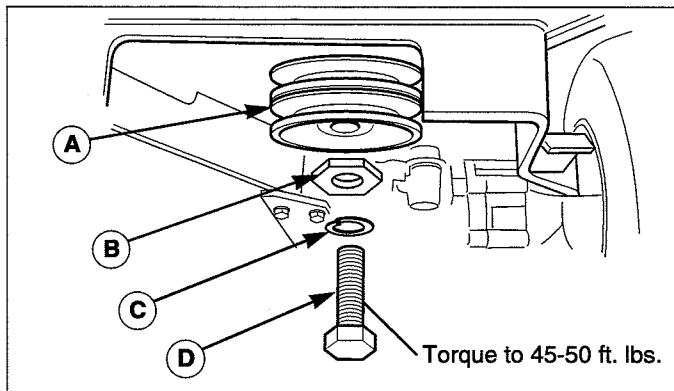

Figure 33. PTO (Electric Clutch) Assembly
5. Unplug the wiring harness from the PTO clutch (A, Figure 33). Remove the PTO clutch as shown in Figure 33.
8. Reinstall the PTO clutch. Torque the PTO clutch capscrew (D, Figure 33) to 45-50 ft. lbs.